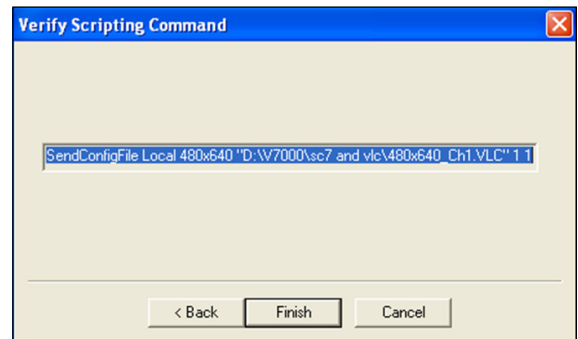

Figure 33: Verifying Scripting Command
10. Confirm that the script is correct and then click **Finish** to create the scripting command and return to the **Edit Script** window. Refer to **Figure 33**.